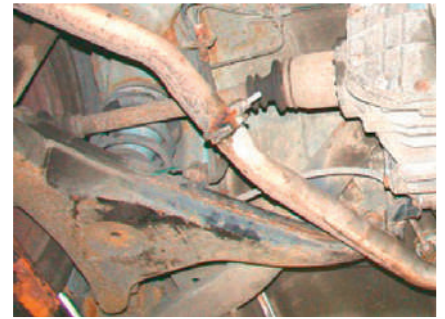

Figure 4.33 Rear semi-trailing arm
- trailing and semi-trailing arms with coil springs for rear-wheel drive (Fig. 4.33).